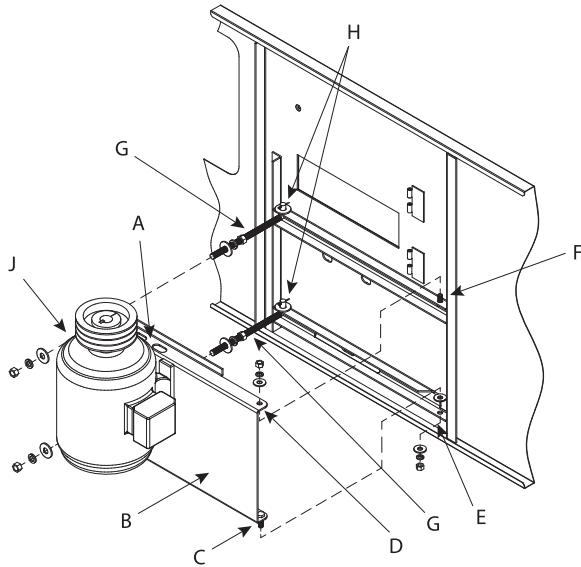

Figure 18a - External Motor Installation
All units narrower than 10' (3m) wide have their motors installed outside the unit in a shaft up configuration as shown in figures 18a and 18b below. Due to shipping width restrictions, these motors cannot ship mounted on the units since they would extend past the width of the truck. For this reason, the motor(s), motor base(s), motor guard(s), "J" bolts, pivot pins and belt(s) are shipped in the cold-water basin of the cooling tower. Please follow the step-by-step instructions below to properly install these components.
1. Study Figure 18a above before installing the motor base on the unit.